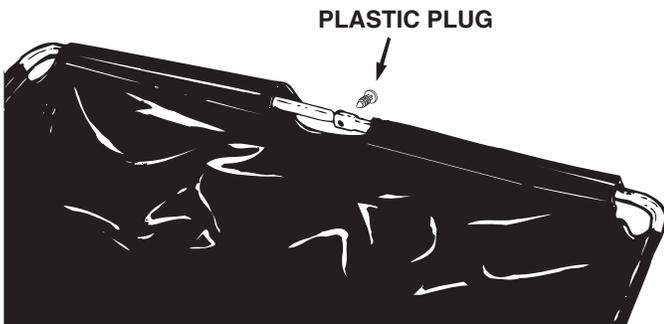

FIGURE 14
3. Fasten the upper hopper tubes together using a plastic plug. See figure 14.